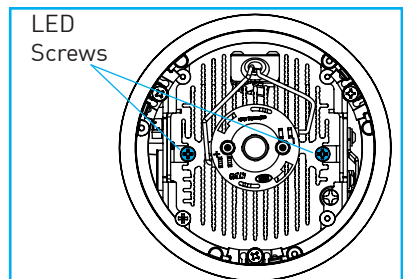

Fig.64
- Using a standard #2 Phillips-head screwdriver, remove 2 screws from LED assembly to detach from mounting surface. *(Fig.64)*